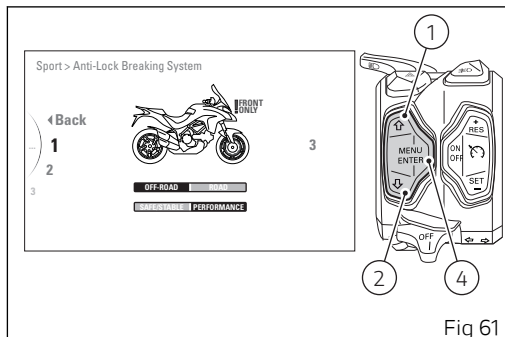
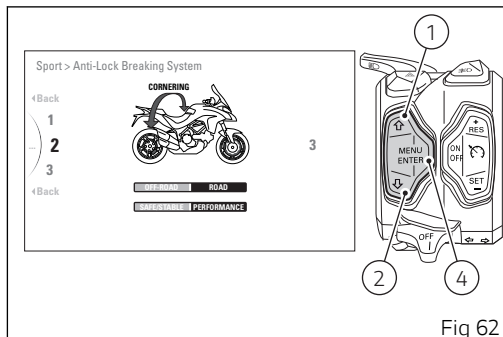

Fig 61
Fig 62
With buttons (1) and (2) select the new level of intervention desired. For each highlighted level, the corresponding paired value in the central table (highlighted with a black background) will be displayed. Furthermore, the braking system intervention level is indicated in Light Blue: the indication “**!FRONT ONLY**” (Fig 61) only for the front active brake, the indication “**CORNERING**” (Fig 62) for the active Cornering function. Once the desired level is highlighted, press button (4) to memorise the new selection. To exit the menu and go back to previous page highlight the “◀ **Back**” indication and press button (4).